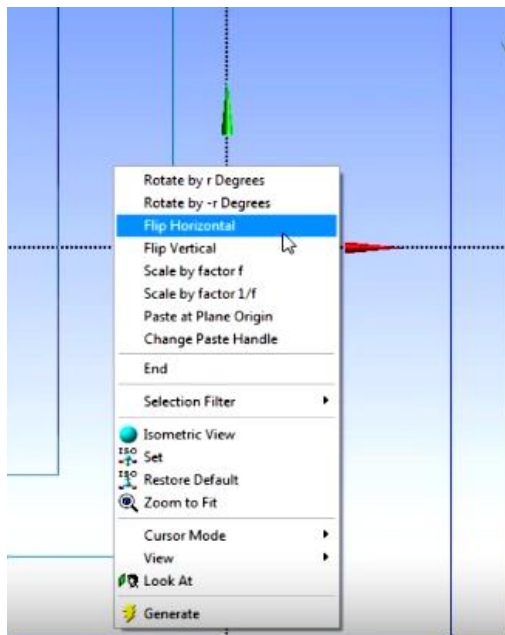

Рис. 5.
*Sketching* → *Modify* → *Replicate*  $r = 180$ ,  $f = 2$  → *End* → *Use origin as handle* → *Paste* → *Flip* → *Horizontal* → *Paste at plate origin* (рис. 5, 6)